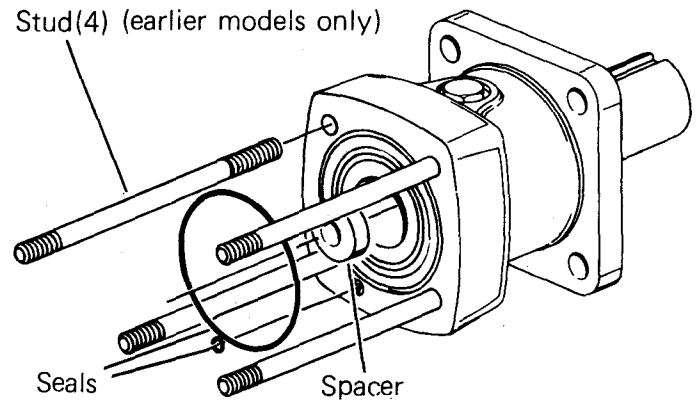

Figure 6
- 17 Use a stud remover or vise grips to remove studs (earlier models only) see Fig. 6.